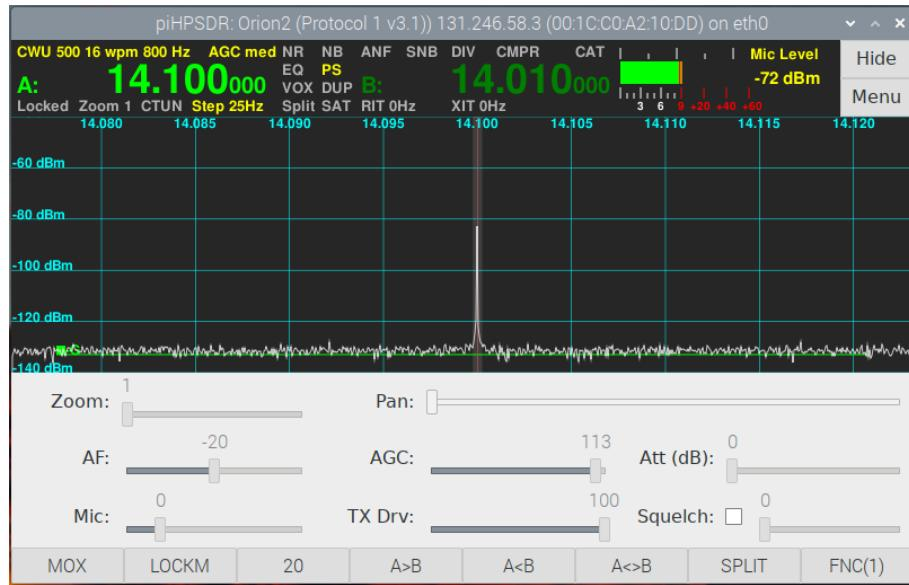

Fig. 10.5: The new F1 layer is operative.
You also see that the toolbar itself has not changed, because we have just changed the FNC(1) set, while currently the FNC(0) set is active. If one now, however, clicks the rightmost toolbar button with the text FNC(0) one advances to the next set and the toolbar labels are updated (Fig. 10.5).